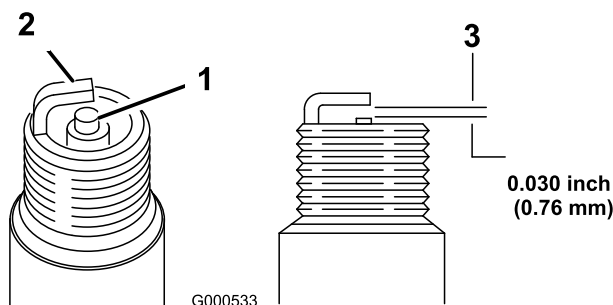

Figure 50
1. Look at the center of the spark plugs (Figure 50).
2. Check the gap between the center and side electrodes (Figure 50) and bend the side electrode, if the gap is not correct.